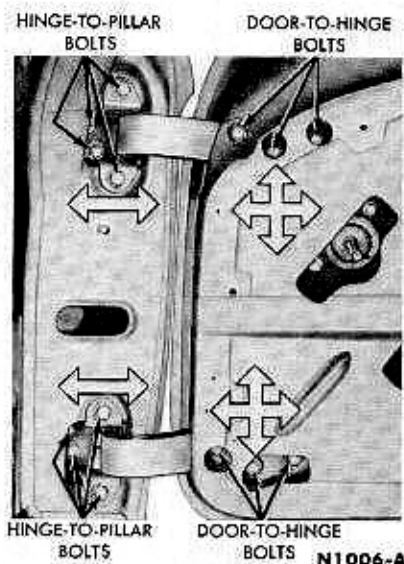

FIG. 1—Door Hinges
The door hinges provide sufficient adjustment latitude to correct most misalignment conditions. The elongated holes where the hinges attach to the pillars provide in-and-out movement of the front door to obtain flush fits with the front fenders (Fig. 1).
The bolt holes where the doors attach to the hinges are enlarged. This permits a circular movement of the front door to obtain proper spacing all around the door (Fig. 1).
1. Consult Fig. 1 to determine which hinge bolts must be loosened to move the door in the desired direction.